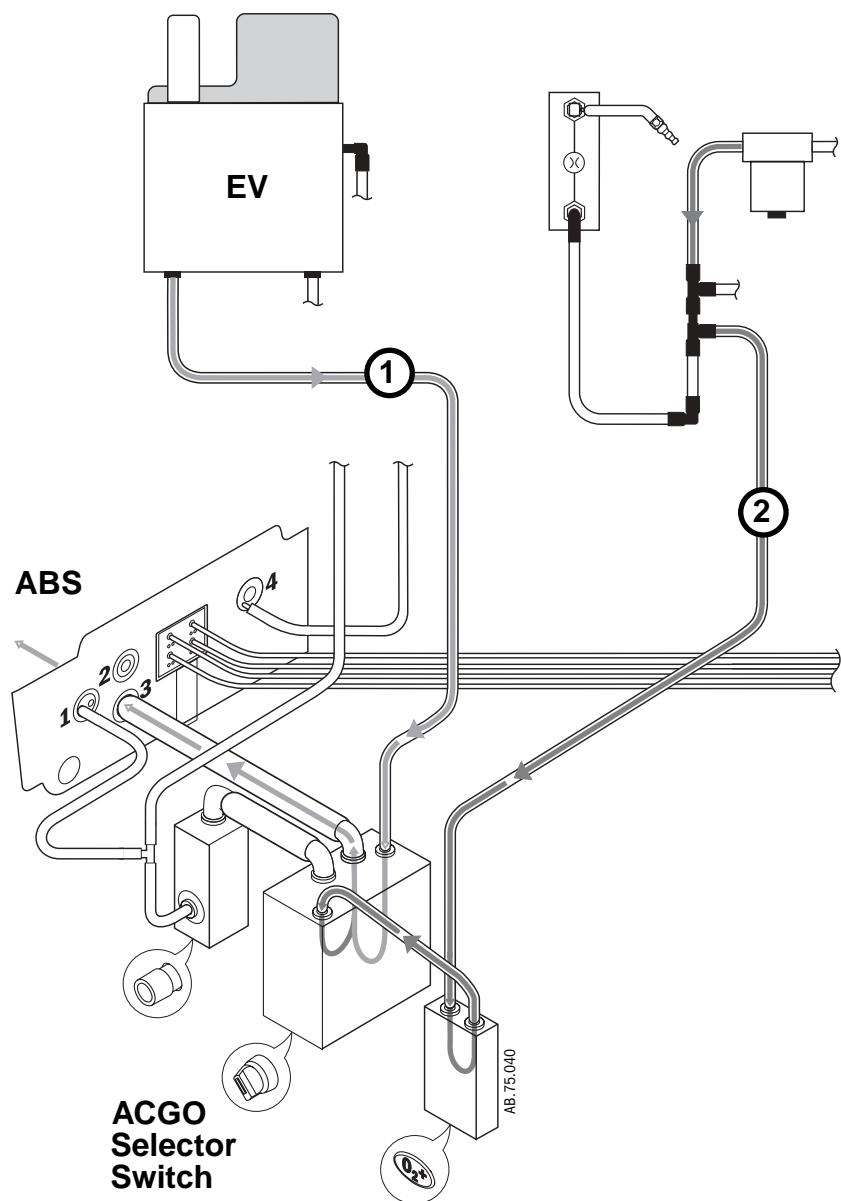

Figure 2-39 • Fresh gas and O2 flush flow (to ABS)
**To ABS (Circle) breathing system (Figure 2-39)**